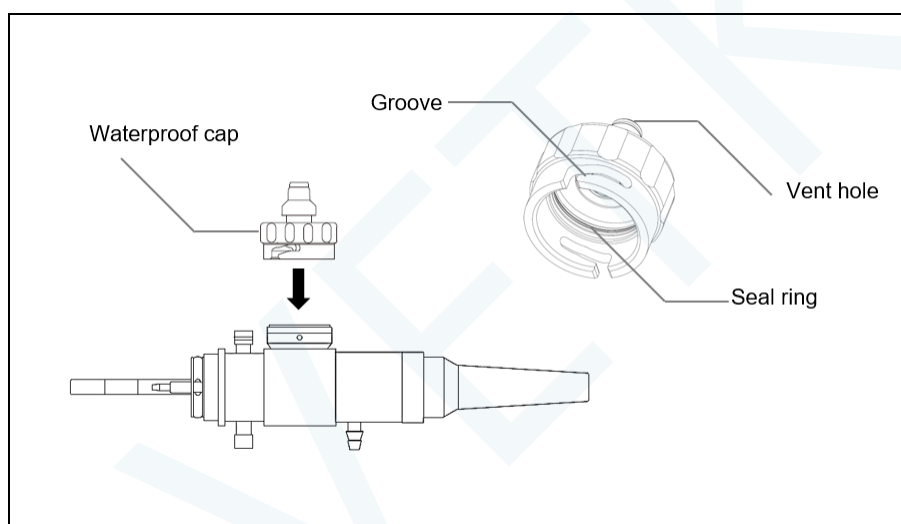

Figure 3.11
1. Check that the surface of the waterproof cap is free of gaps, cracks, deformation, wear or other damage (Figure 3.11).
2. Put the waterproof cap on the electrical connector of the light guide connector (Figure 3.11).